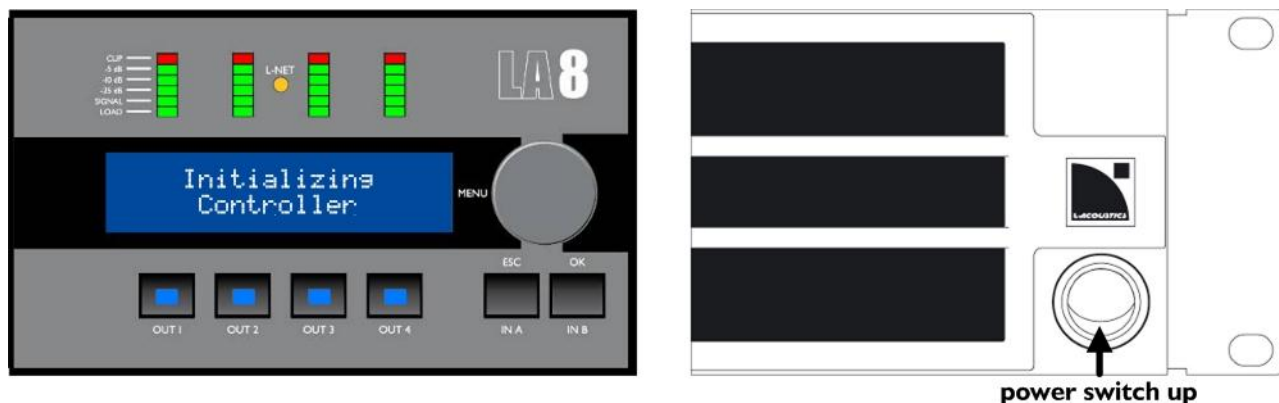

Figure 13: Start-up sequence
- ▶ Press the power switch up to power the LA8 on, see Figure 13.